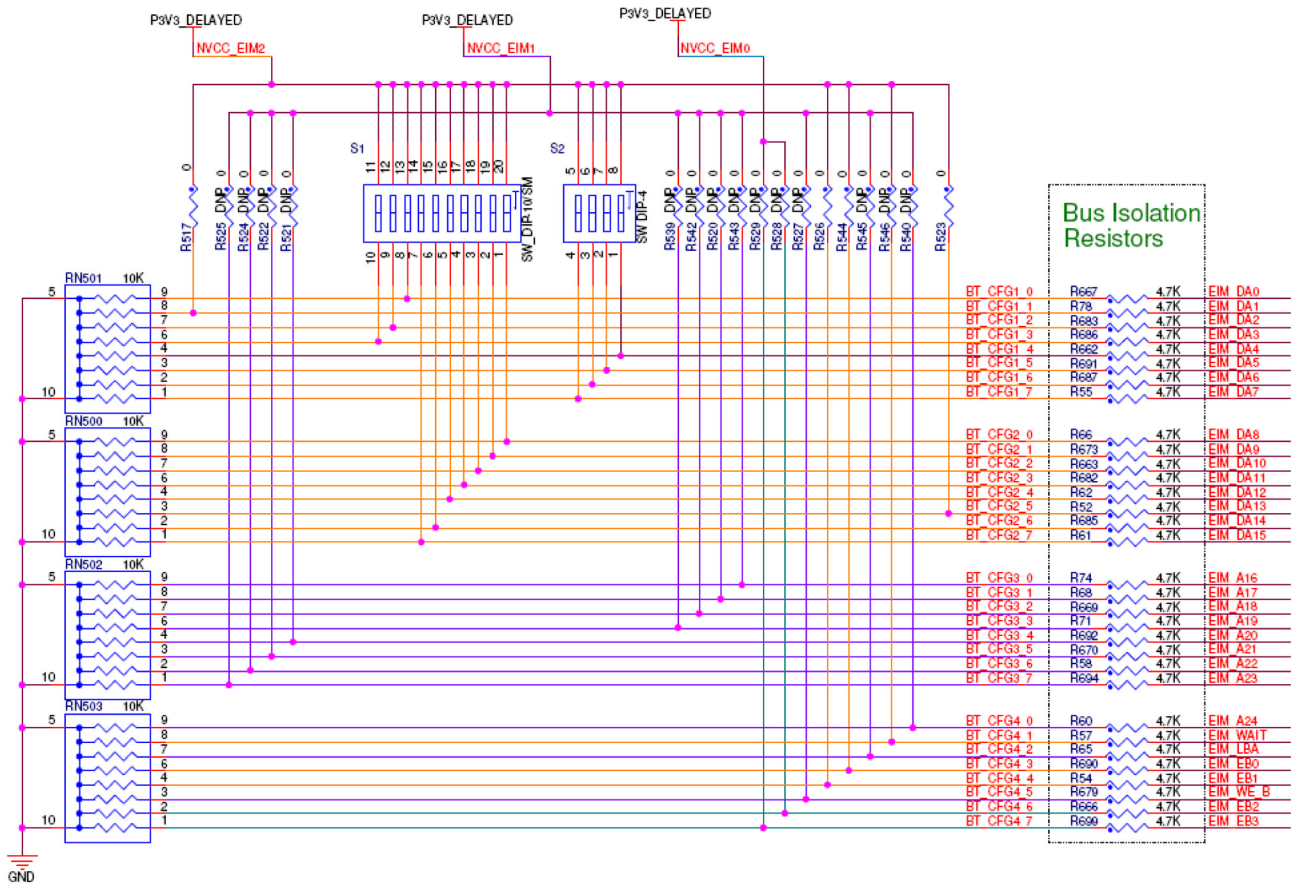

Figure 2-1. Boot configuration for development mode
1. When EIM boot signals are used as the system's EIM signals, other functions, or GPIO outputs after boot, use a passive resistor network to select the desired boot mode for development boards.	Because only resistors are used, EIM bus loads can cause current drain, leading to higher (false) supply current measurements. Each EIM boot signal should connect to a series resistor to isolate the bus from the resistors and/or switchers; see <a href="#">Figure 2-1</a> . Each configured EIM boot signal sees either a 14.7 k $\Omega$ pull-down or a 4.7 k $\Omega$ pull-up. For each switch-enabled pulled-up signal, the supply is presented with a 10 k $\Omega$ current load.